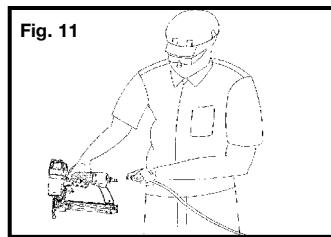

Fig. 11
- Always assume the tool contains fasteners.** No horseplay. Respect the tool as a working implement. (Fig. 11)